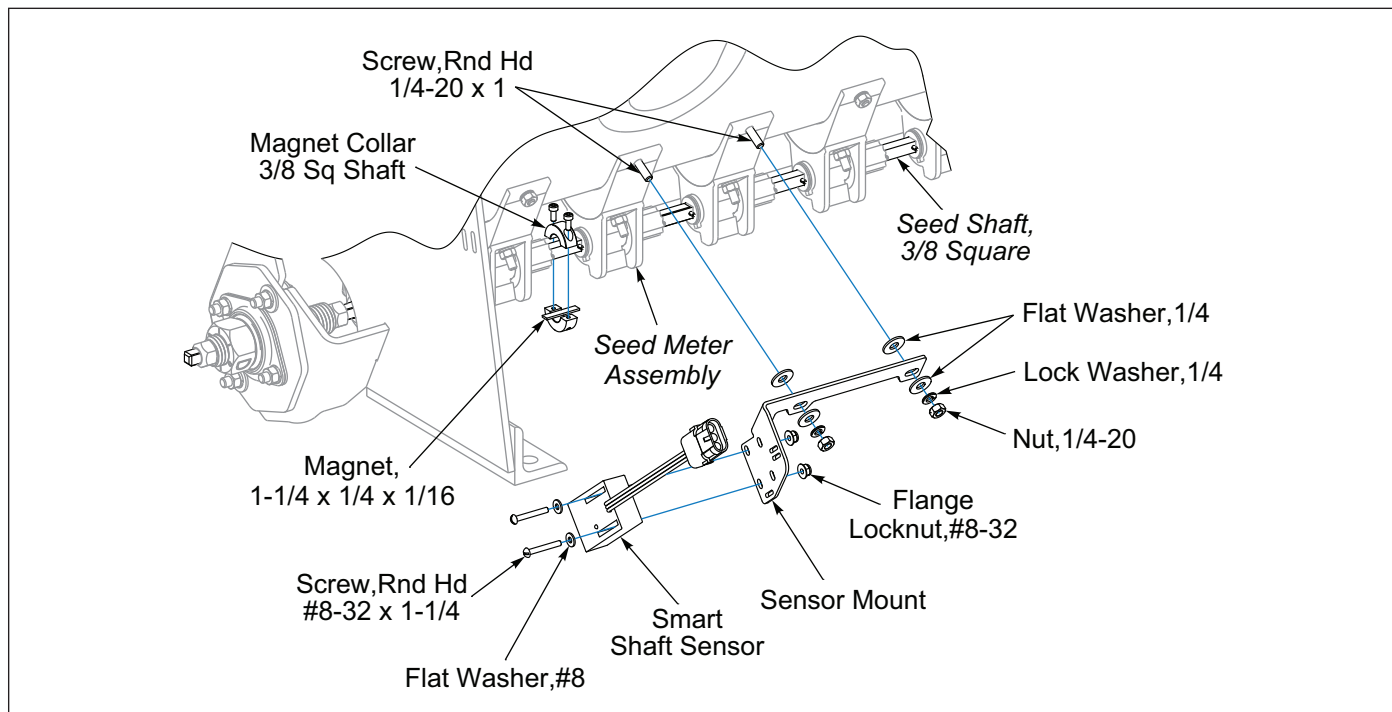

Figure 2-35: Brillion Elite Mini Monitor - Seed Box Seed Shaft Sensor
3. Front RH side Seed Box between the 2nd and 3rd Seed Meter Assembly, place 1-1/4 x 1/4 x 1/16 Magnet on the Seed Shaft. Secure with Magnet Collar. See **Figure 2-35**. Remove the 3rd and 4th Seed Meter front 1/4-20 x 3/4 Round Head Machine Screws that mounts the Seed Meter to the Seed Box and replace them with 1/4-20 x 1 Round Head Machine Screws. Place a 1/4 Flat Washer on each side of the Sensor Mount and install it on the 1/4-20 x 1 Machine Screws. Secure with Lock Washers and Nuts. Install a Smart Shaft Sensor to the Sensor Mount with sensor provided hardware and #8-32